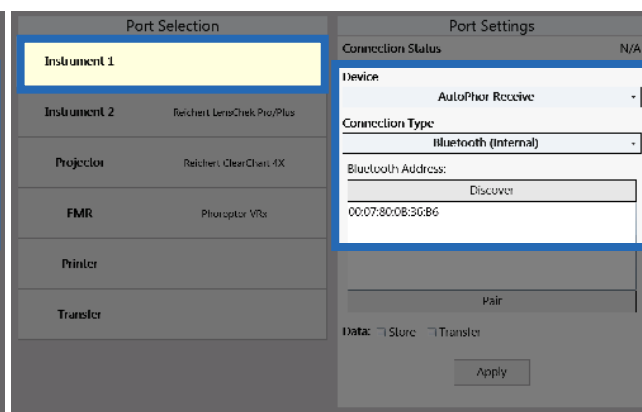

Figure IS-31, Internal Bluetooth Receive
7. Repeat all the above steps for the Instrument 1 port on the Phoroptor VRx that is having the data transferred to it. Be sure that under Device, **AutoPhor Receive** is selected. Refer to Figure IS-31.